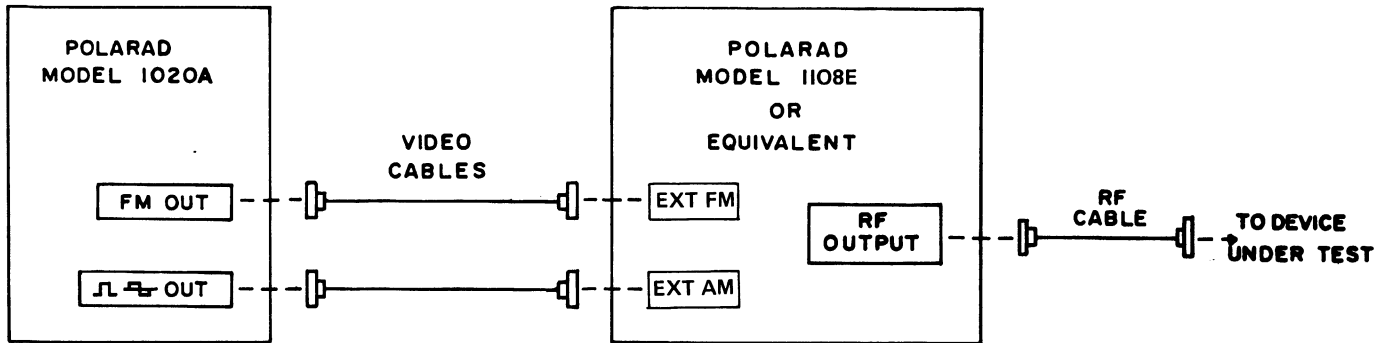

Figure 2-3. Operational Setup for the Model 1020A
- a. Connect instrument to signal source or generator and device under test as shown in figure 2-3.